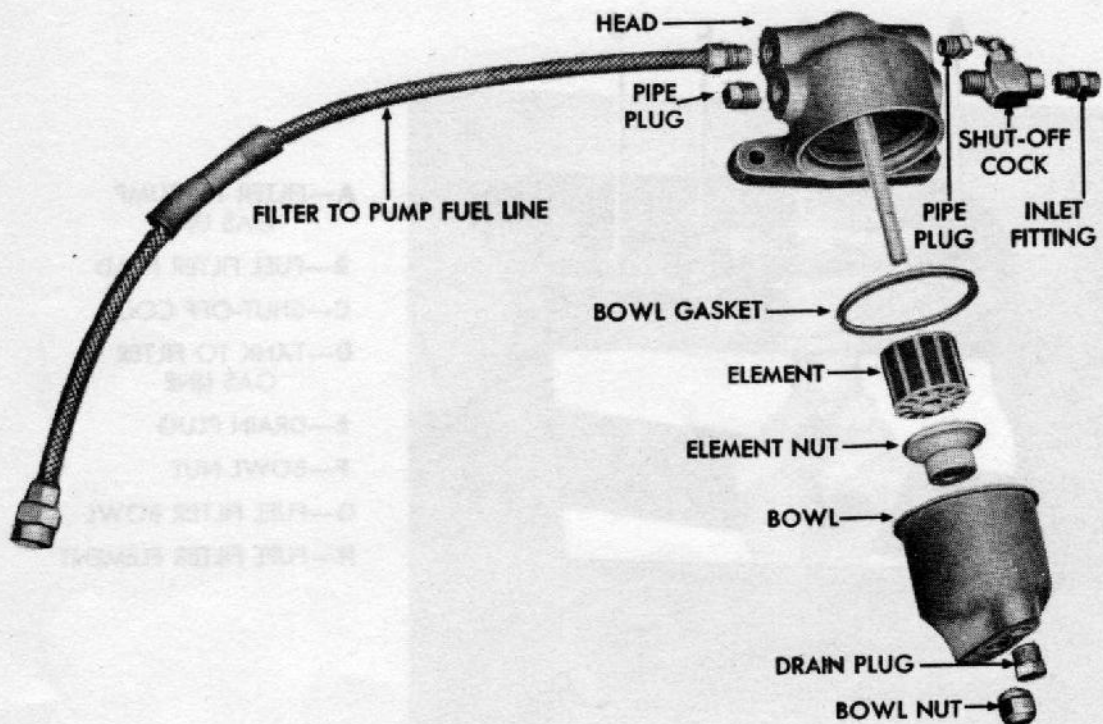
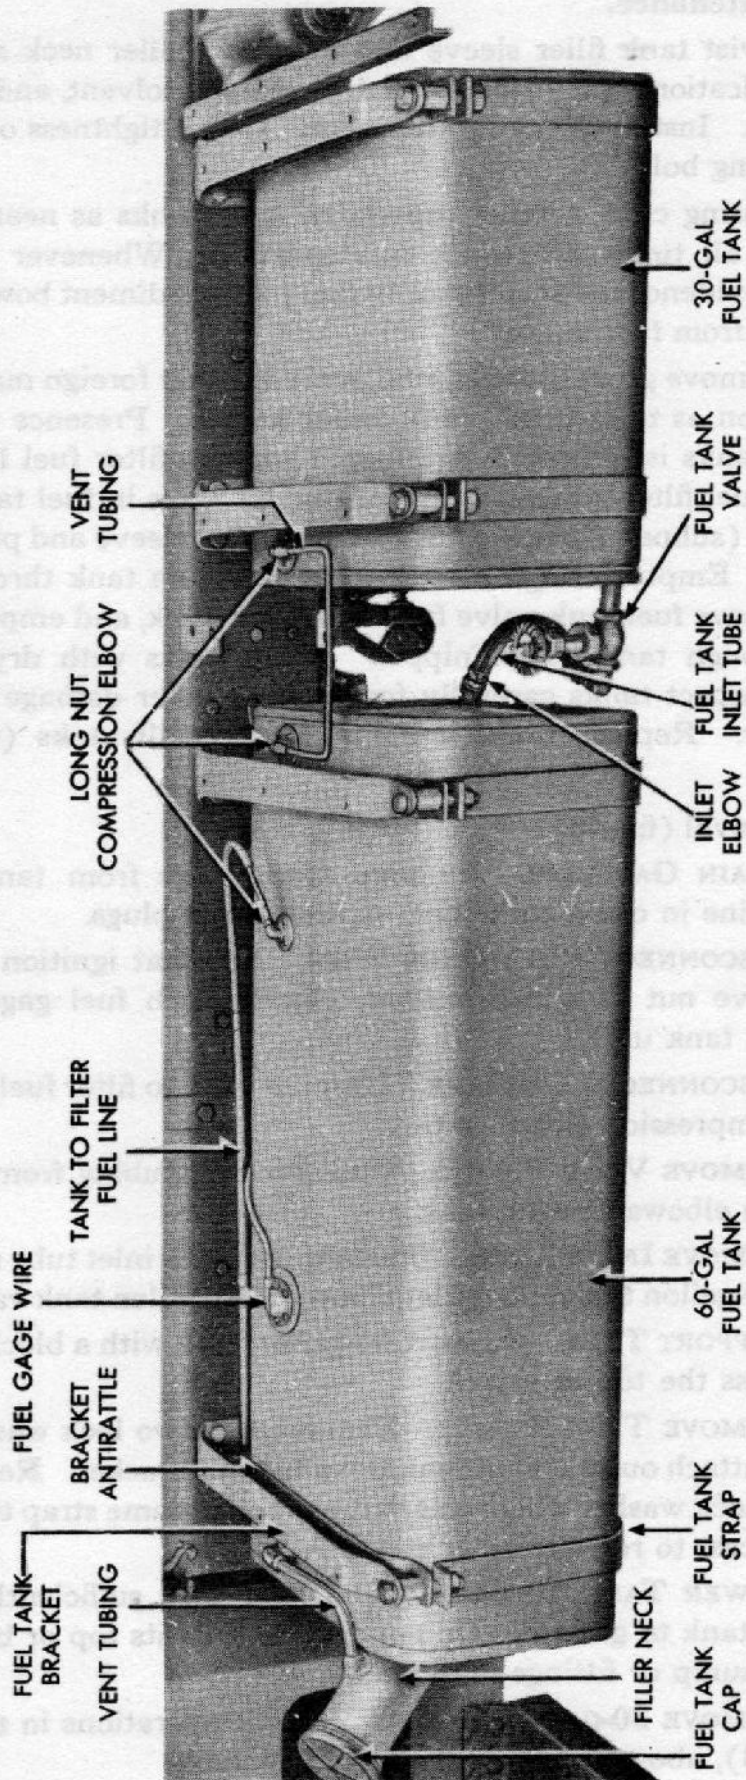

Figure 45 — Fuel Filter Disassembled
Figure 46 — Fuel Tanks Installed (Ponton Body and Deck Plate Removed)
a. **Description** (fig. 46). Rectangular fuel tanks of 60- and 30-gallon capacity are attached to the outside of the chassis frame ahead of the left rear wheel. They are heavy sheet-metal weld assemblies and are connected by a valve and full tank inlet tube. Two bracket castings, bolted to the frame side rail, extend out over each tank. Two steel straps run around each tank and secure it to the brackets. The two tanks are connected by a tube in which is located a shut-off valve, thus permitting the smaller tank to be used as an auxiliary or emergency tank. The fuel outlet elbow and gage connection are on top of the forward tank. A drain plug is provided on each tank. It is located in a sump at the underside of each tank. The filler neck, which is equipped with an external air outlet tube, is an integral part of the 60-gallon forward tank. It extends obliquely from the tank near its upper left corner. The neck contains a removable tank filler sleeve which acts as a strainer. A chain attaches the tank cap to the tank filler sleeve.
(1) Twist tank filler sleeve and pull from filler neck at time of chassis lubrication. Clean sleeve in dry-cleaning solvent, and dry with an air blast. Install sleeve in filler neck. Check tightness of all strap and mounting bolts.
(2) During cold weather especially, keep tanks as nearly full as possible at all times, to reduce condensation. Whenever excessive water is in evidence in fuel filter or in fuel pump sediment bowl, remove drain plugs from fuel tanks.
(3) Remove gravel, stones, rust, scale or other foreign matter from tanks as soon as their presence becomes known. Presence of foreign matter in tanks is indicated by clogged tank to filter fuel line, rapid fouling of fuel filter, plugging of drain, or by noise in fuel tanks. Remove tanks (subpar. c below). Twist tank filler sleeve and pull it from filler neck. Empty foreign matter from 60-gallon tank through filler neck. Remove fuel tank valve from 30-gallon tank, and empty foreign matter through tank outlet nipple. Rinse tanks with dry-cleaning solvent. Inspect tanks carefully for leaks or other damage from foreign matter. Replace tanks if damaged. Install tanks (subpar. d below).
c. Removal (fig. 46).
(9) **REMOVE 30-GALLON TANK.** Repeat operations in steps (6), (7), and (8), above, and remove 30-gallon tank.
d. Installation (fig. 46).
(3) **INSTALL 60-GALLON TANK.** Repeat operations in steps (1) and (2) above, and install 60-gallon fuel tank.
a. **Description.** Gasoline is conducted from the 30-gallon fuel tank to the 60-gallon tank through a valve and flexible woven tube. Gasoline is conducted from the 60-gallon fuel tank to carburetor through three fuel lines. Tank to filter fuel line (fig. 46) and pump to carburetor fuel line are made of steel. They have ferruled ends. Filter to pump fuel line is flexible woven metal (fig. 45). Brass sleeve coupling nuts are used throughout. Both rigid lines are protected by loom. In appearance and fittings, the lines are similar to those of the brake system.
c. **Removal** (figs. 46, 41, and 45). Completely unscrew sleeve coupling nut from each end of tubing. Remove clips along tubing. Work tubing from vehicle.